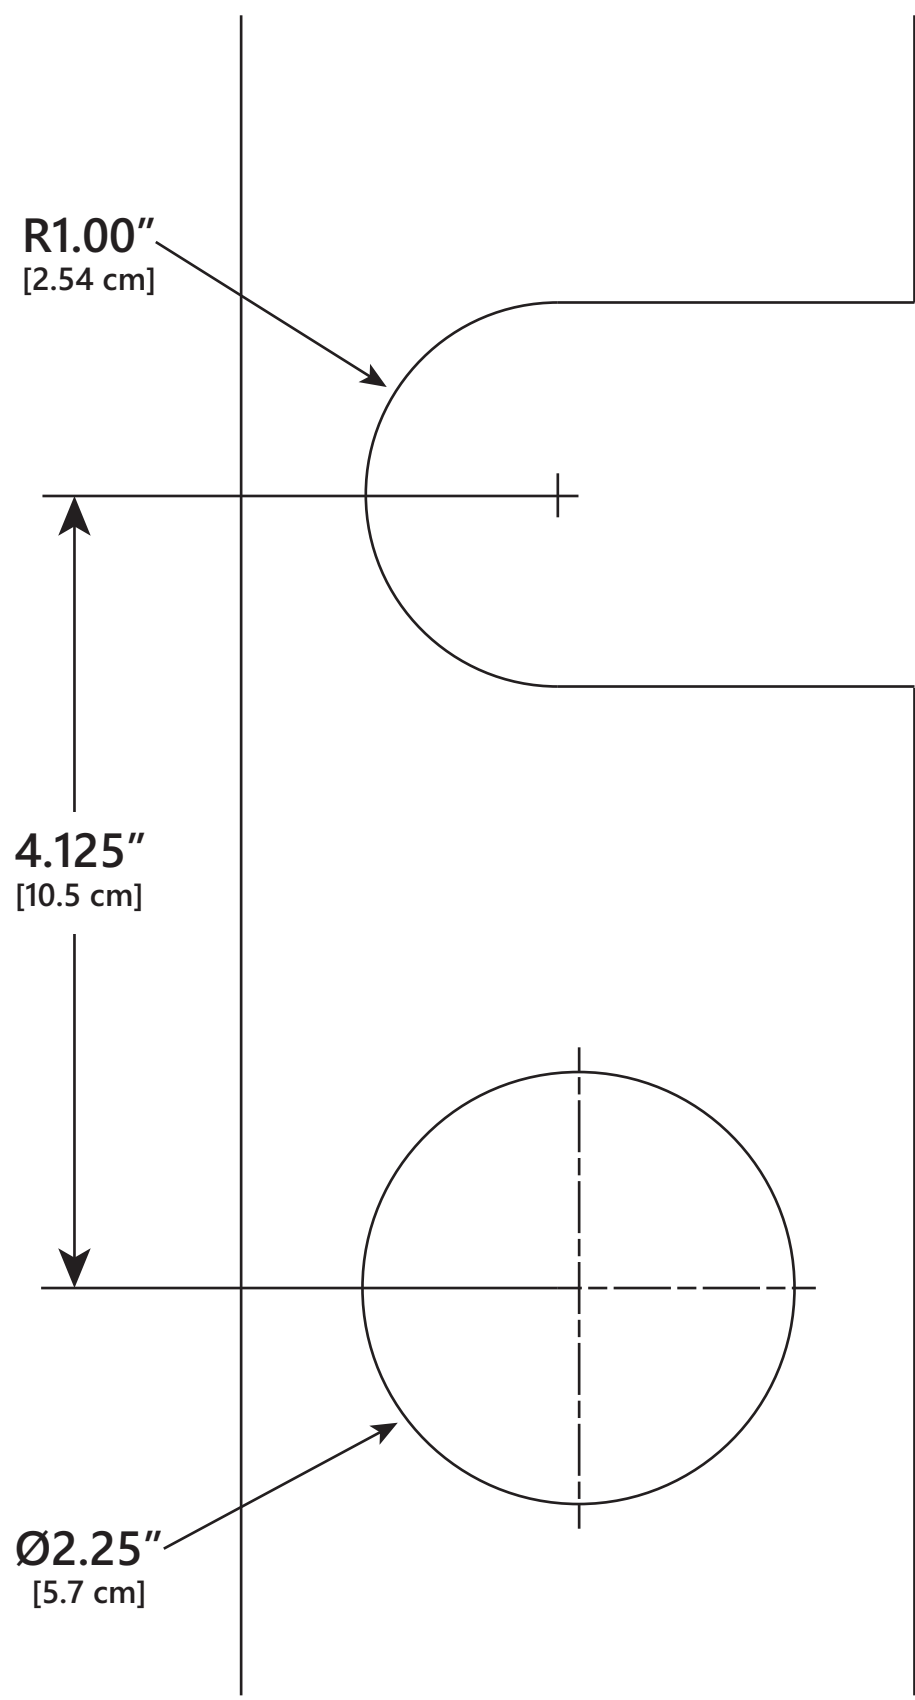

Figure 4. SumpJet Hole Template
9. If a sump cover is desired, use U-bolts to clamp the SumpJet to the sump cover. See Figure 4 to determine the correct position for the holes required in the sump cover.